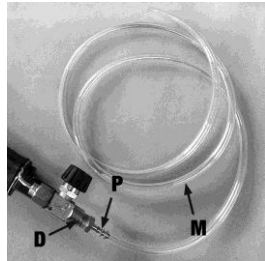

Fig. 4
5. Connect the water hose (M) with water inlet connector (P) to the water inlet (D) and leave another end of water hose to the water supply (Fig. 4).